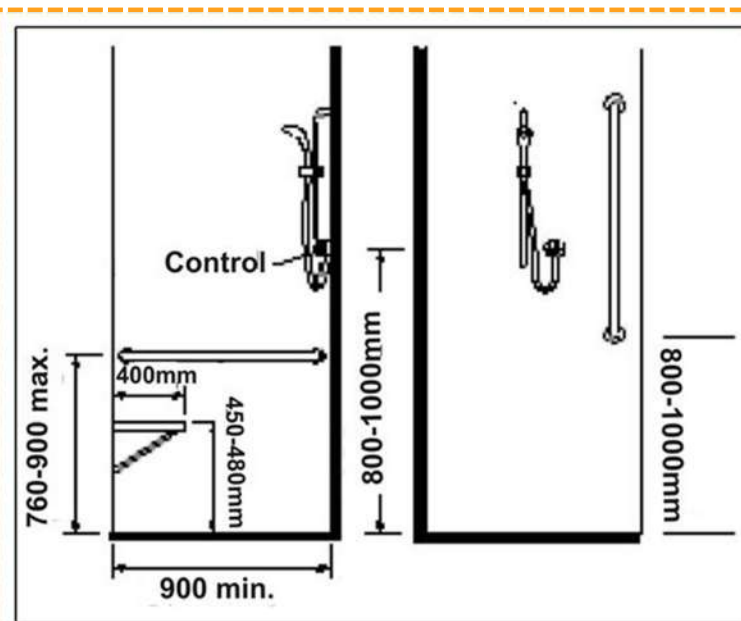

Figure 6.8: Placement of shower accessories
- Have one L-shaped bar or two grab bars in L-shaped configuration between 700 mm and 800 mm from the shower floor (**Figure 6.8**); and